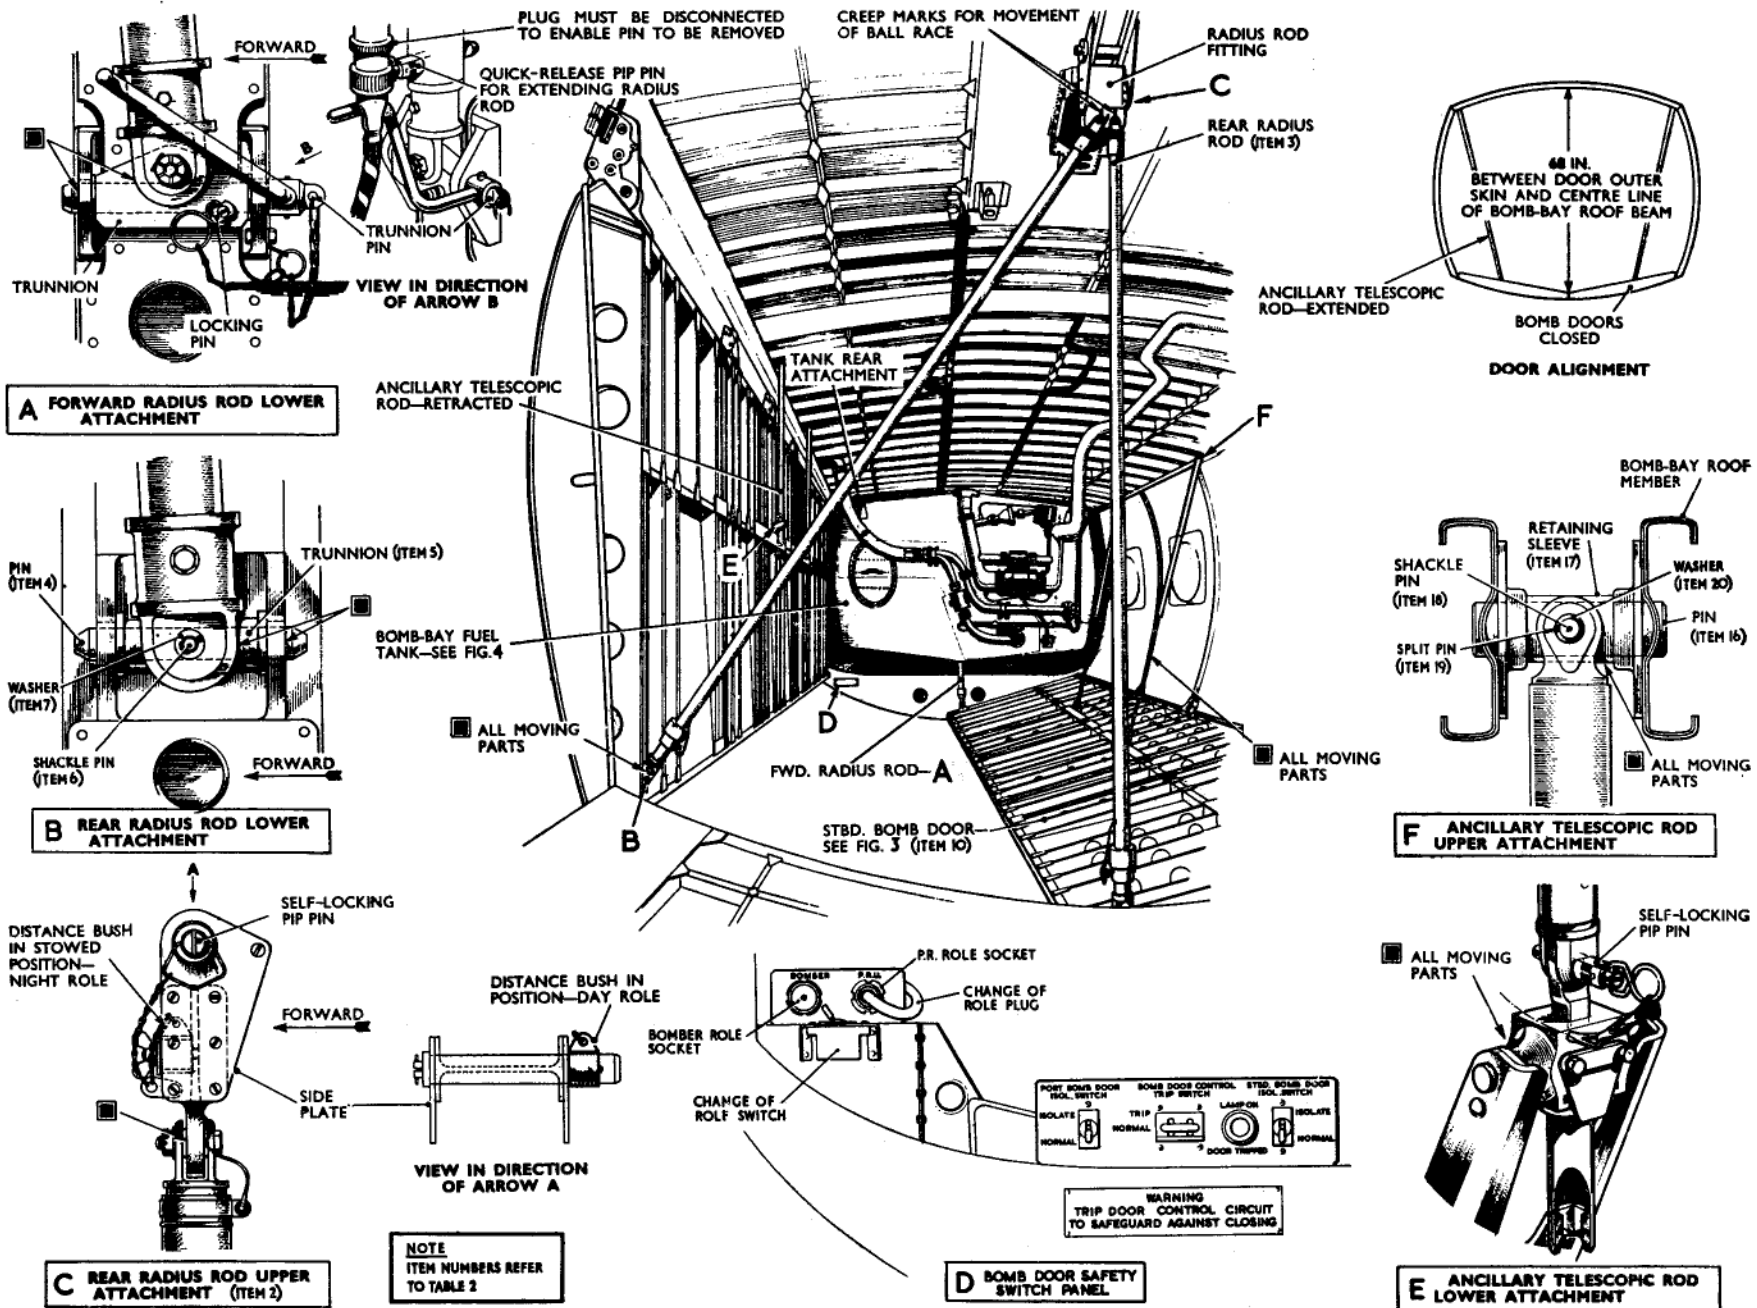

Fig. 1. P.R. type bomb-bay
(5) Remove the nuts from the lower attachment bolts and tap out the bolts, taking care to avoid damaging the thin gauge skin adjacent to the bolt heads. The racks are then free and must be removed complete with bogies; attach the shims (*operation* (3)) for safe storage (for use on reversion to bomber role).
(6) Remove the bomb-bay door rack support from the port and starboard oblique camera apertures.
*On conversion from bomber to P.R. roles the 3-pin electrical plug must be removed from the socket on the starboard front radius rod and connected to the stowage on the radius rod bracket. At the change of role plug-and-socket panel (fig. 1) at the front port side of the bomb bay, remove the electrical plug from the BOMBER socket, select PRU on the BOMBER/PRU switch, and insert the plug into the PRU socket. Under these circumstances, the bomb-bay doors are operated from the P.R. BOMB-BAY switch at the external supply panel and NOT from the cabin.*